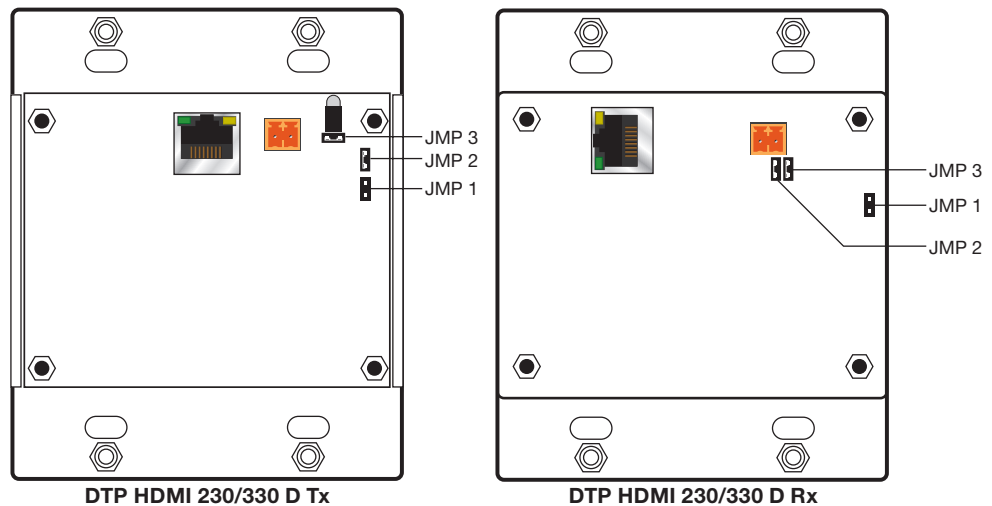

Figure 13. DTP HDMI 230/330 D Internal Jumper Locations
3. Locate and remove shunt jumpers at locations labeled JMP2 and JMP3 on both transmitter and receiver (see figure 13 for jumper locations).